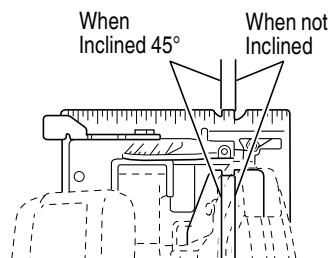

Fig. 12
1. Place the saw body (base) on the work piece, and as in Fig. 12 align the intended line of cut with the saw blade, using the notch. This relationship of base to work pieces should remain unchanged regardless of the inclination of the base.
4. Tilt saw forward and align the notch (Fig. 12) with the pre-marked guide line.